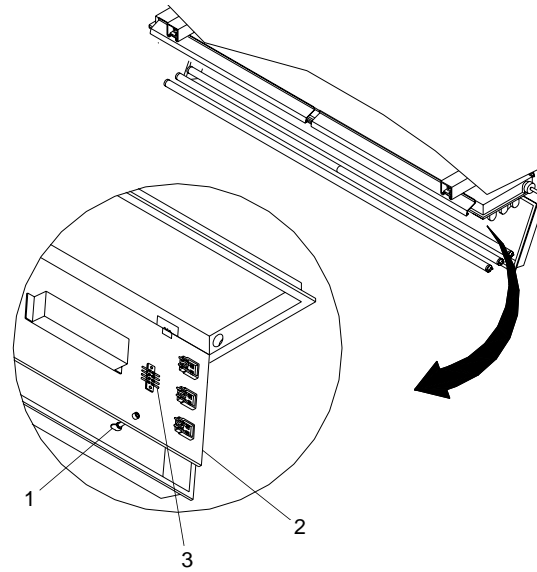

Figure 3. Fluorescent Light Fixture Reflector
5. Loosen wing screws (figure 3, item 1) and allow reflector (figure 3, item 2) to hang down on hinge
6. Label and disconnect wiring (figure 3, item 3).
7. Remove four screws (figure 3, item 1) and washers (figure 3, item 2) securing light fixture (figure 3, item 3) to ceiling
8. Discard light fixture (figure 3, item 3).
9. Position and install four screws (figure 3, item 1) and washers (figure 3, item 2) to secure light fixture (figure 3, item 3) to ceiling. Tighten screws (figure 3, item 1).
10. Install wiring (figure 3, item 3) in light fixture (figure 3, item 3).
11. Close reflector (figure 3, item 2) and secure with wing screws (figure 3, item 1).